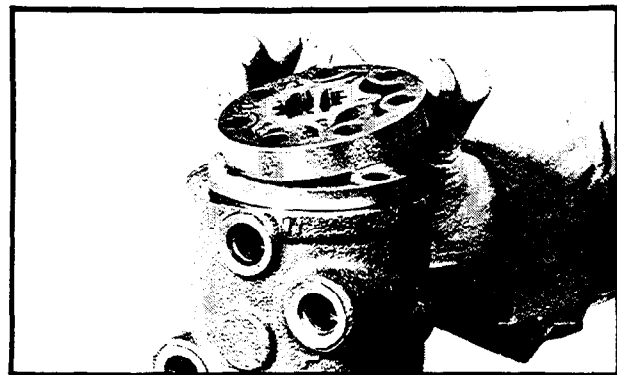

Figure HGA-9
7. Remove the commutator ring (33) from the manifold (32), by a sliding and lifting motion. Care should be used in the handling of this fragile component.
8. Remove the manifold (32) from the rotor set (31) by sliding and lifting motion.
9. Remove the rotor set (31), spacer (29) and drive link (30) as an assembly by grasping the spacer and removing the assembly with a sliding and lifting motion. (See figure HGA-9).